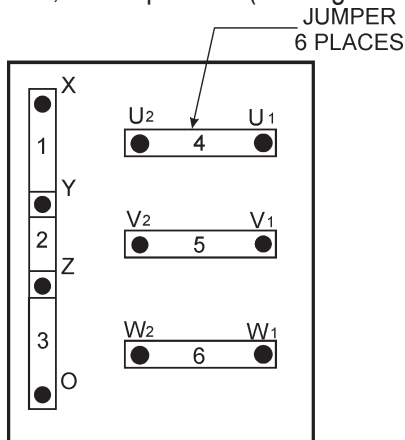

Figure 15. Voltage Change-Over Board 240V/3Ø Configuration
A wide range of voltages are available to supply voltage for many different applications. Voltages are selected by applying jumpers (6) to the **voltage change-over board** (Figure 15). To obtain some of the voltages as listed in Table 7 (see below) will require a fine adjustment using the **voltage regulator** (VR) **control knob** located on the control panel.
Before taking a reading from either gauge, configure the voltage change-over board which produces the desired output voltage. When the voltage change-over board is jumpered for 3Ø, 240V operation (See Figure 15).